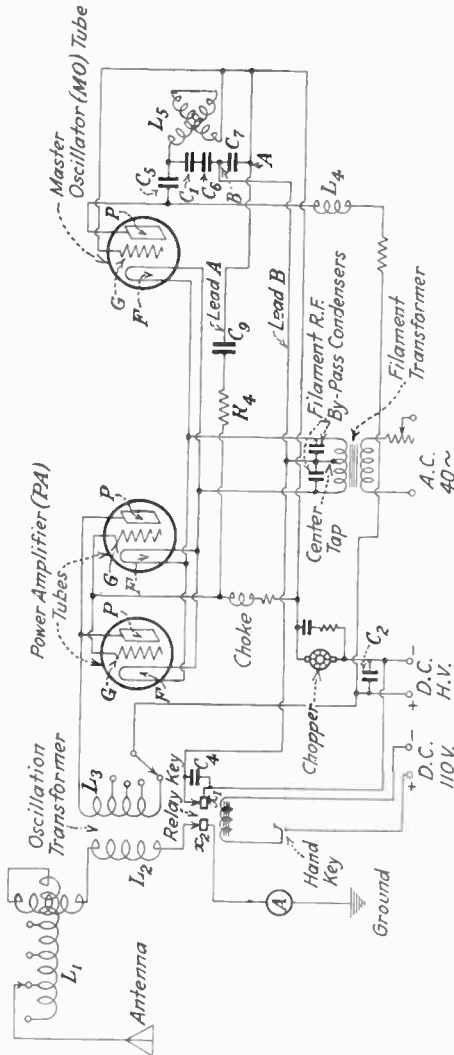

FIG. 6.—Wiring diagram of vacuum-tube transmitter (master-oscillator type).
*Ans.* Figure 6 illustrates a typical commercial tube transmitter using this principle.
message by the receiving operator by the latter's holding down the key at the point where he missed a letter or word. This method is of great advantage in cases where long messages are being sent, because it permits the receiving operator to halt the transmitting operator the moment he misses a letter and thus save considerable time. In modern tube-transmitter installations, this system is utilized by using a special relay key operated by a solenoid which is excited by the ship's power and controlled by the regular small Morse hand key. This device consists of two pairs of contacts, one pair being connected with the low-potential end of the antenna system and the other pair in the key circuit of the transmitter. Whenever the antenna contacts are open, the radio receiver is connected through the antenna inductance, and when they are closed automatically, they short circuit the receiver, thereby protecting against high-voltage surges. During the period that the key circuit of the transmitter is closed, the receiver contacts must close a fraction of a second before to insure against a possible *burn-out* of the receiver. This is accomplished by carefully adjusting the contact spring on each pair so that the spacings on the antenna contacts are about  $\frac{1}{8}$  inch less than the key contacts. When the proper spacing adjustment is obtained, a slight spark will occur at the key contacts and a slightly larger one at the antenna contacts. If a relay key is not provided, then a break-in system may be arranged by using a separate antenna for the receiver. Figure 6 illustrates a master oscillator-tube transmitter equipped with a break-in relay.
*Ans.* See Fig. 6.